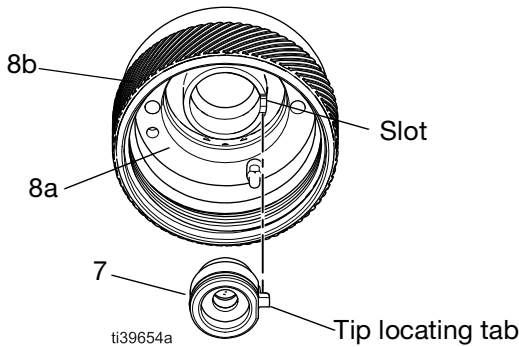
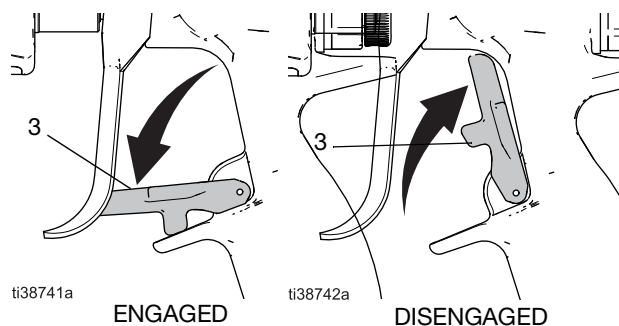

FIG. 7: Spray tip and air cap setup (back view)
FIG. 12: Trigger lock positions
2. Engage the trigger lock (3). See FIG. 12, page 15.
3. Remove the air cap assembly (8) and spray tip (7).
4. Install the spray tip (7) in the air cap (8a) with the tip locating tab positioned in the air cap slot. See FIG. 7.
1. Engage the trigger lock (3). See FIG. 12.
4. Disengage the trigger lock (3). See FIG. 12.
6. Engage the trigger lock (3). See FIG. 12.
7. If you suspect the spray tip (7) or gun fluid supply hose (G) is clogged or that pressure has not been fully relieved:
- a. **VERY SLOWLY** loosen the retaining ring (8b) or the hose end coupling (22) to relieve pressure gradually.
- b. Loosen the nut or the coupling (22) completely.